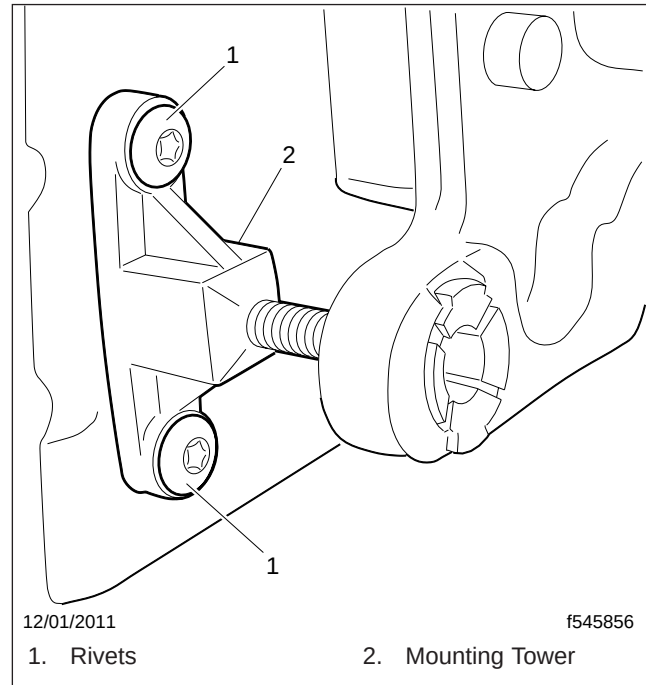

Fig. 4, Rivet and Mounting Tower Installation
2. Make sure the towers and rivets are not broken or missing. See Fig. 4.